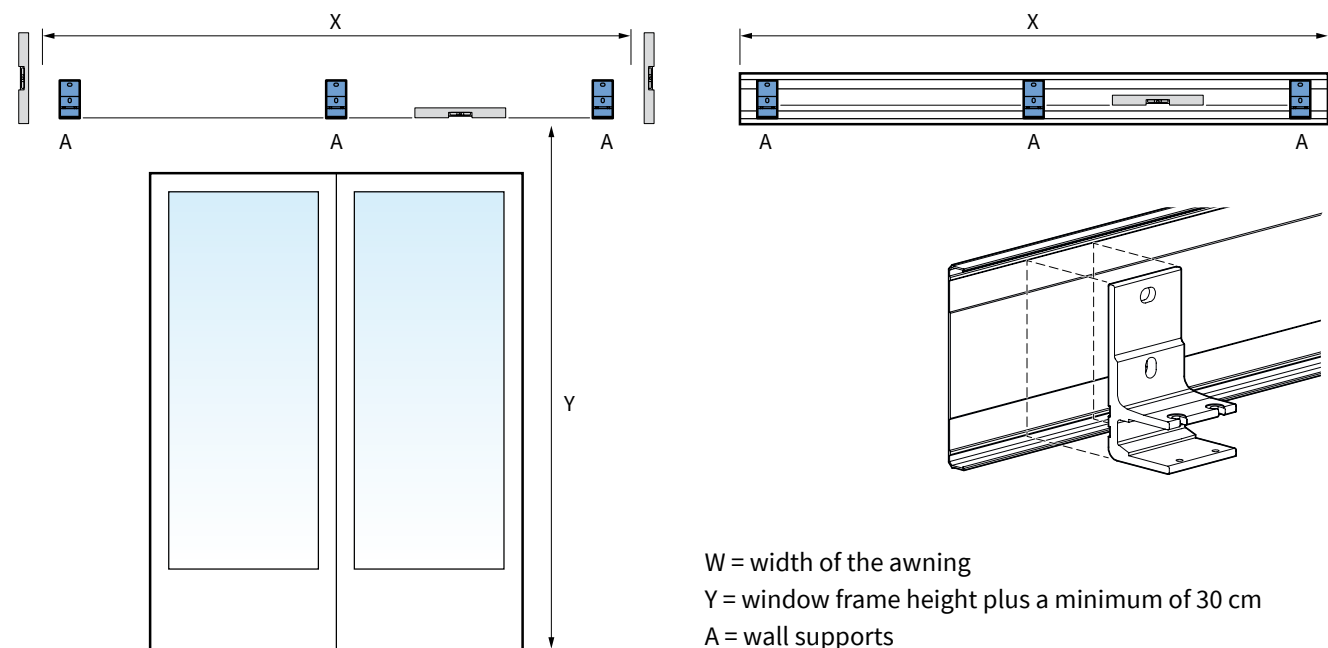

fig. 1.2 Placing the wall supports
Mark the drill holes of the wall supports (A) and, if necessary, the center support (B) on the wall. The holes need to be levelled aligned both horizontal and vertical. See figure 1.2.